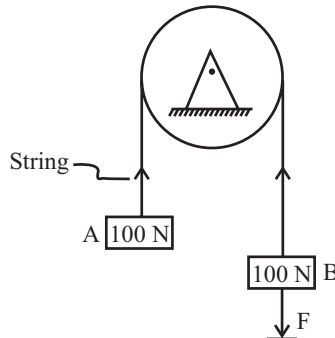

Fig 11.16
Q.22: The system of particles shown in fig 11.16 is initially at rest. Find the value of force F that should be applied so that the system acquires a velocity of 6m/sec after moving 5m. (Nov-03(C.O.))